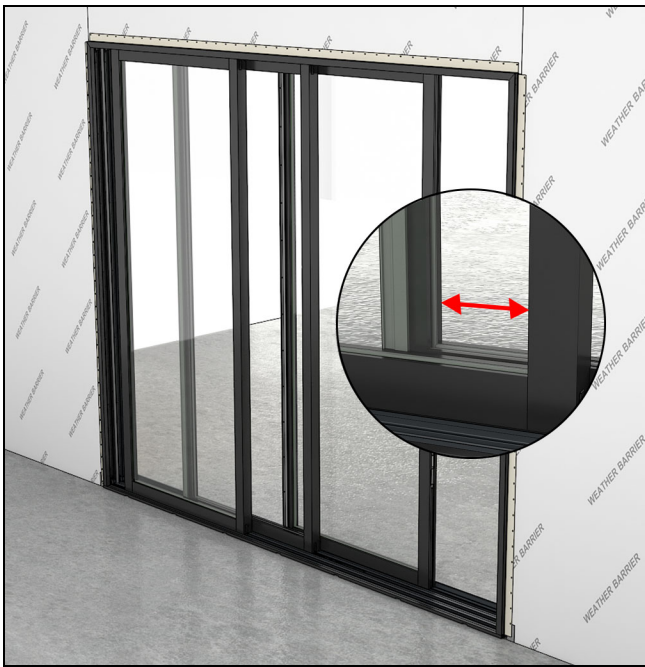

Figure 94
7. With the primary panel open slightly, move the secondary panel until you can see daylight through the glass between the stiles. Check for an even reveal and adjust the rollers on the secondary panel. Repeat as necessary for every secondary panel. See Figure 94.